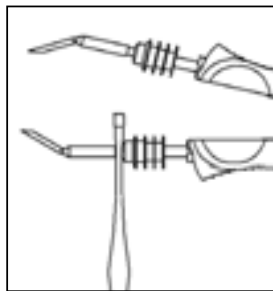

Figure 9a
- Grip the soldering bit/desoldering insert with tip change tweezers and pull it carefully forwards and off (fig. 9a + 9b).